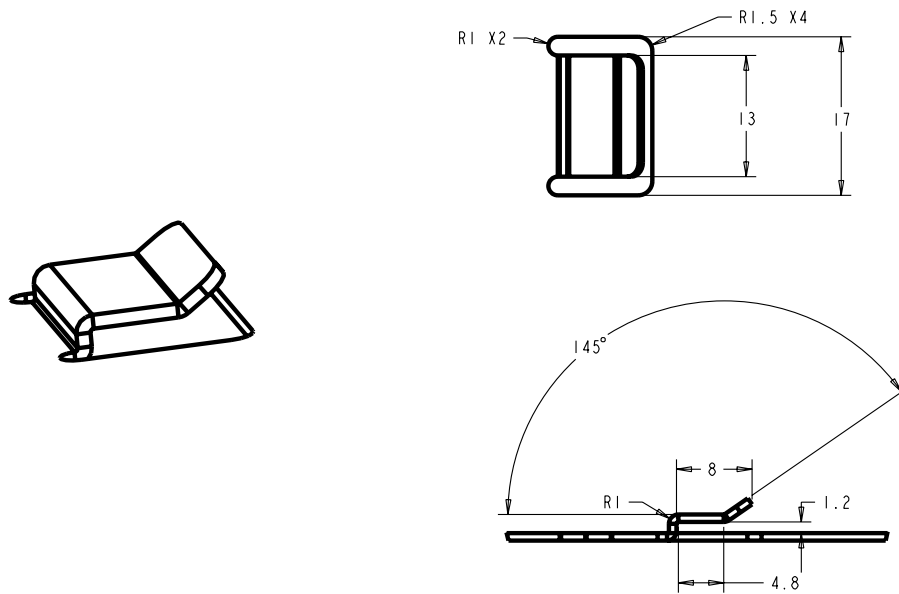

Figure 14. Suggested Mounting Tab (chassis feature)
- EITHER a mounting bracket to interface with the forward mounting hole on the power supply OR a mounting tab as shown in Figure 14 to interface with the mounting slot on the bottom of the power supply